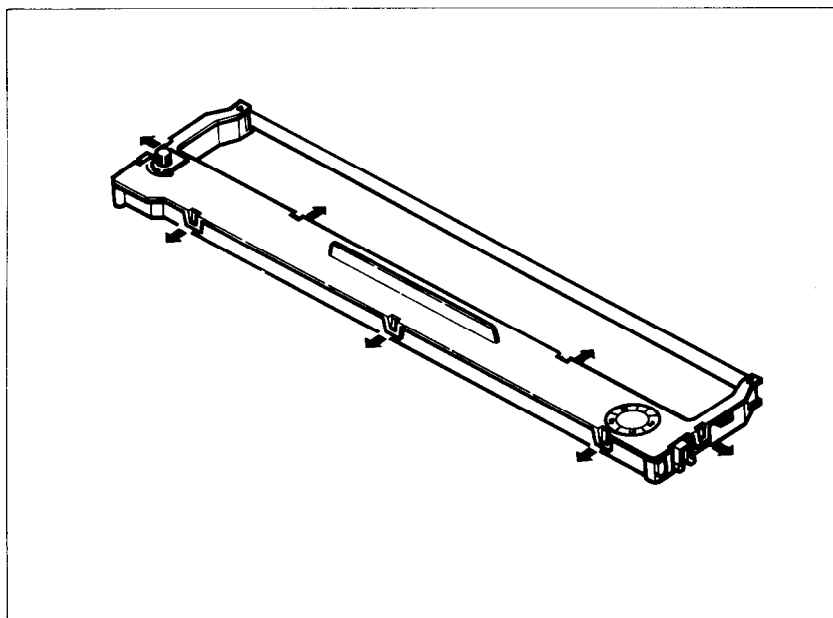

Figure 10-1. Unhook tabs to pry open the cartridge.
3. Unhook the seven tabs of the cartridge cover carefully, and pry open the cartridge cover. Figure 10-1 shows the numerous tabs for unhooking.